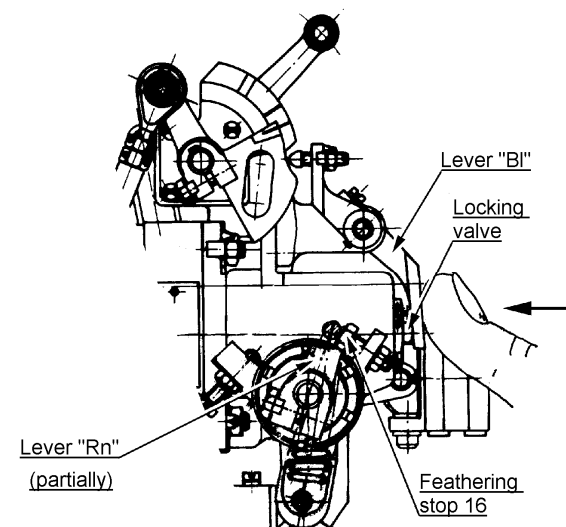

Figure 11-31 Blocking valve clearance check
- k) Move propeller control lever to the stop **16** and fix, manually through the lever "Bl" press the locking valve according to figure 11-31. Small clearance  $\approx 0,1$  mm (0.004 inch) must be evident.